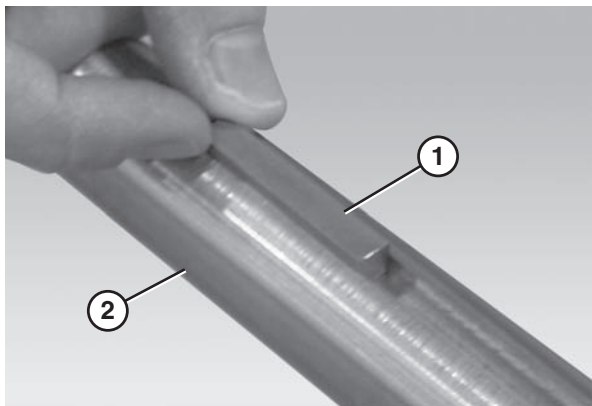

Figure 5
2. Insert the drive spindle key (**Figure 5, item 1**) into the drive spindle keyway (**Figure 5, item 2**).